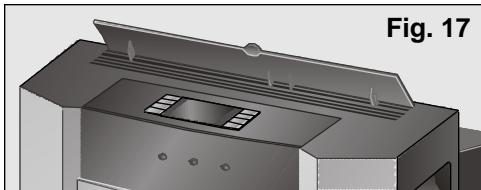

Fig. 17
- ❑ Lift the air director on the top of the appliance, **Fig. 17**.